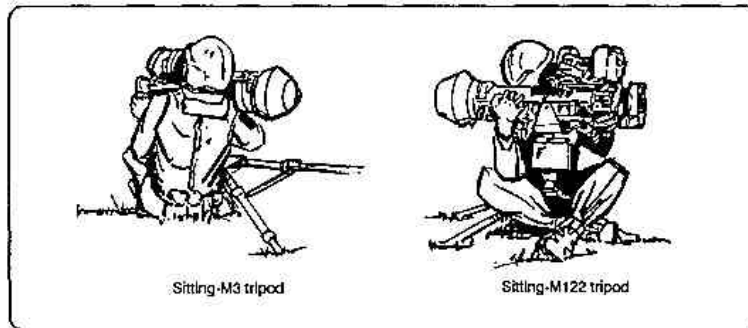

Figure 1-11. M3/M122 machine gun tripods.
- (1) It provides improved, stable firing and tracking conditions for the gunner, thereby increasing weapon system effectiveness.
- (2) The mount is used to fire the M222/MK1, MOD 0, tactical rounds or M223 practice round. It accommodates the M54 LET and M57 FHT.
- (3) The round and tracker are electrically mated through two connectors on the mount. They are fired by a remote firing mechanism on the right rear of the cradle.
(4) Azimuth and elevation dampers reduce gunner and vehicle vibrations. They assist the gunner in obtaining a firm, steady tracking action.
b. **M3/M122 Machine Gun Tripods.** Either the M3 or M122 machine gun tripods (Figure 1-11) can be used to fire the Dragon from a ground support position.